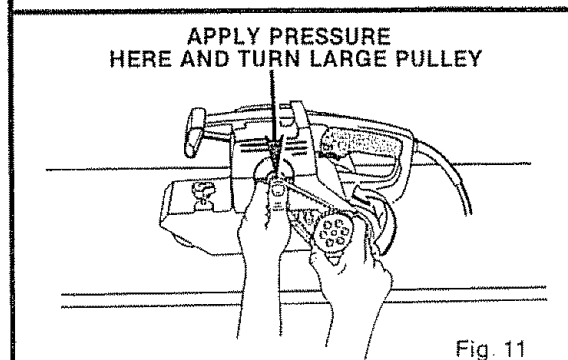

Fig. 11
5. Holding the belt as shown in Figure 11, press the belt onto the small pulley. **NOTE: TO SIMPLIFY THE PROCESS, TURN THE LARGE PULLEY AS YOU PRESS THE BELT ONTO THE SMALL PULLEY.**